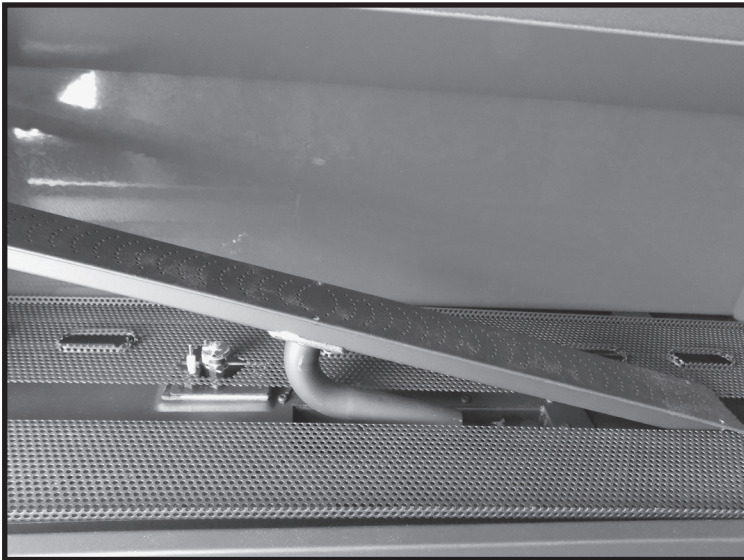
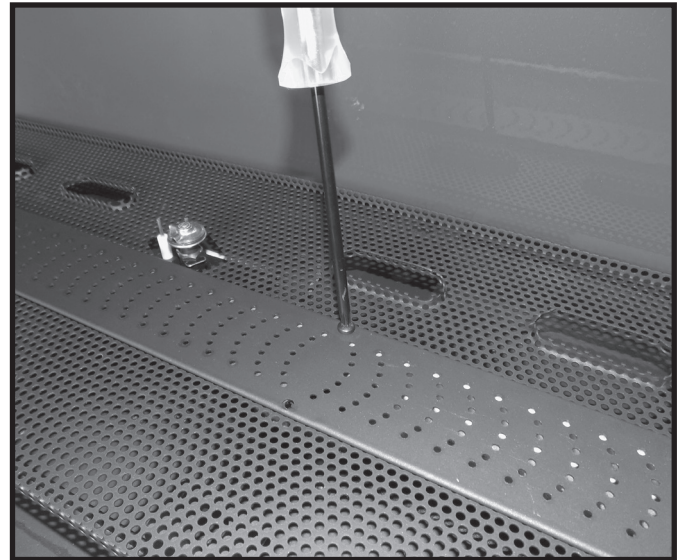

Figure 48: Insertion of burner.
Figure 49: Securing burner to burner tray.
1. Insert the burner into the glass media tray and secure with 6 supplied screws (Figure 48 and Figure 49).